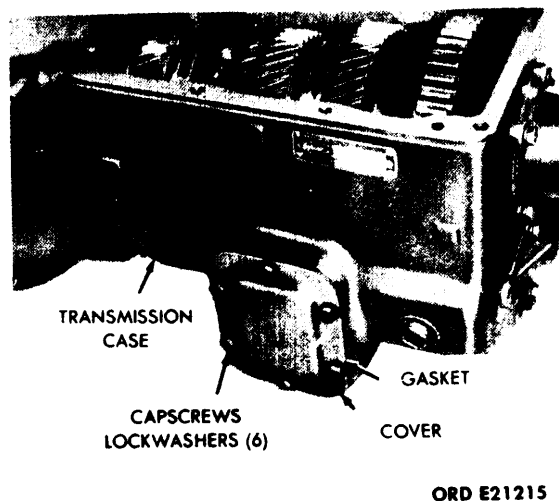

Figure 3-24. Removal of Power Takeoff Opening Cover.
f. *Power Takeoff Cover Opening.* Remove the six capscrews and lockwashers securing the power takeoff opening cover to the transmission case. (See fig. 3-24.) Remove the cover and gasket. Discard the gasket.